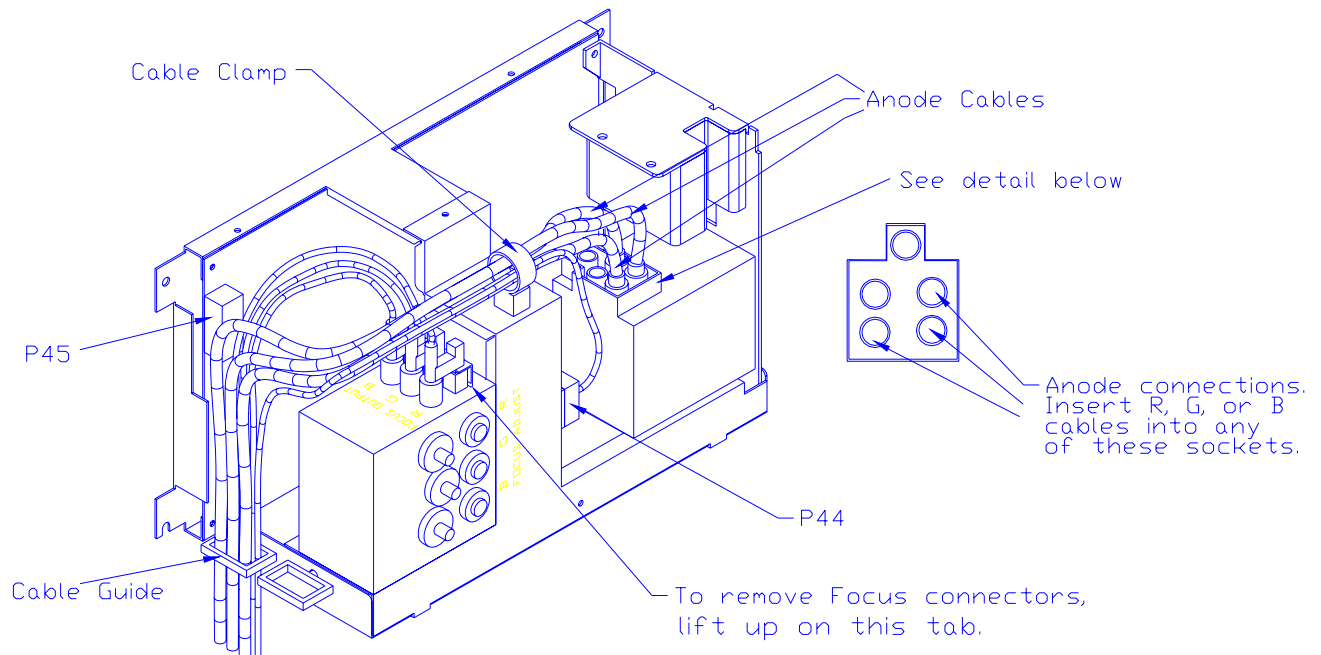

Figure 4-6 High Voltage Power Supply.
NOTE: For the remainder of this procedure refer to Figure 4-6 above.
9. Disconnect and label the 3 Focus cables. The square tabs on these cables (see Figure 4-6) may have to be lifted up by gently prying with a flathead screwdriver.
3. Disconnect 6 connectors; J31, J32, J33, J38, J39, and J40. (*Figure 4-6*). Move the cables out of the way.